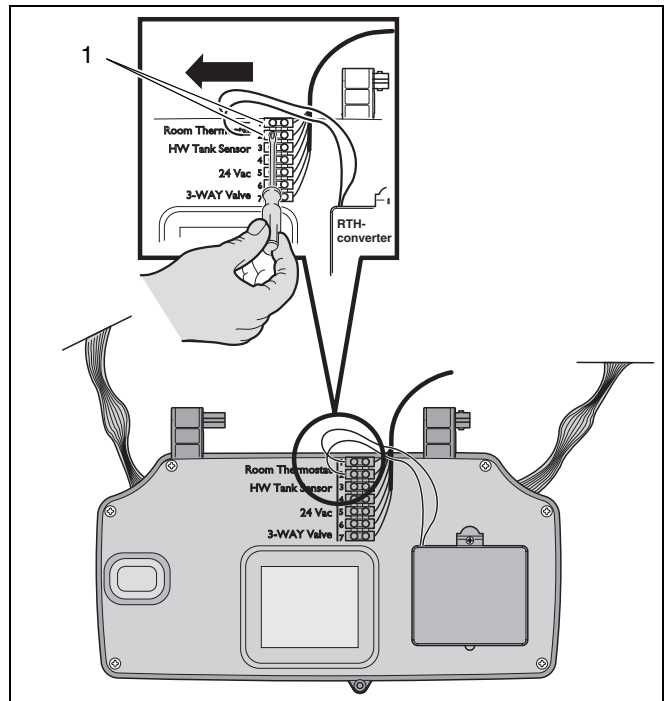

fig. 31 Room thermostat connection on DBA
- Disconnect the twin cable of the rth-converter from terminal 1 and 2 of the connection block (see fig. 31, item 1) on the back of the DBA.
- Connect the cable of the ModuLink 250 RF receiver to terminal 1 and 2 of the room thermostat connection on the back of the DBA (see fig. 31, item 1).